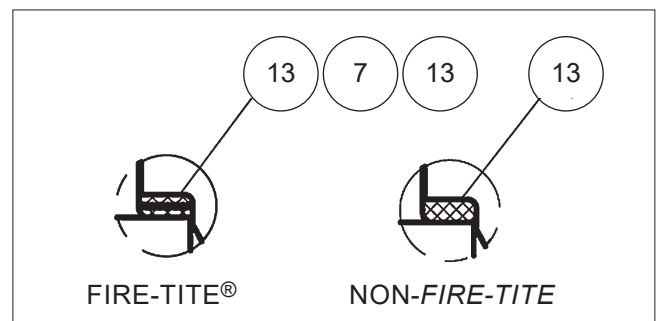

Figure 7. Thrust Bearing Orientations
7. From inside the body (1), insert the one thrust bearing (13), the secondary stem seal (7), and the second thrust bearings (13) into the stem bore (see **Figure 7**).
9. Slide one thrust bearing (13), the secondary stem seal (7) and the second thrust bearing (13) over the stem (4) (see **Figure 7** for proper orientation).